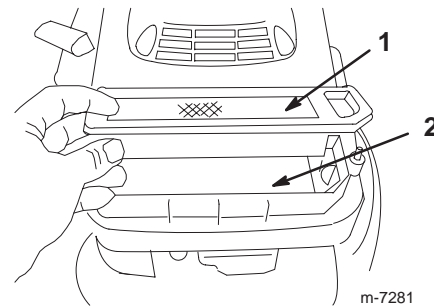

Figure 22
5. Remove the paper air filter and discard it as required (Fig. 22).